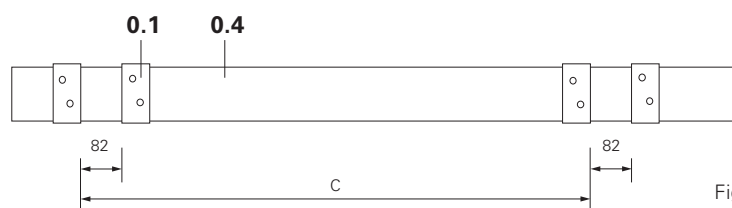

Fig. A1.02
plywood blocks (0.1) ( Fig. A1.02)
- For spacings see (Fig. A1.02)